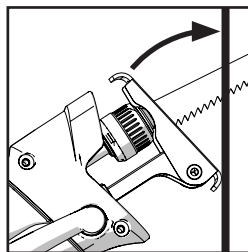

Fig. 10
- Hold the machine at an angle to the workpiece with the bottom edge of the workpiece contact plate resting firmly against the workpiece. (Fig. 10).